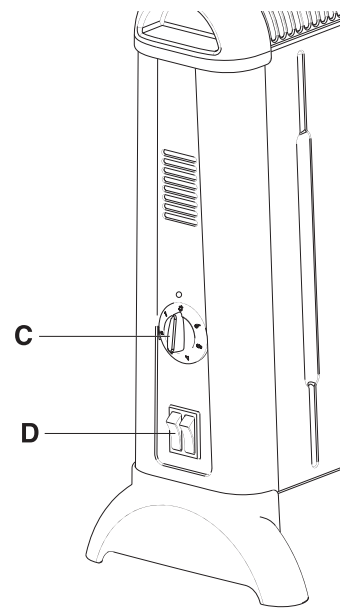

Fig. 2
Turn the thermostat knob clockwise (C) until it reaches its last possible setting, then press one switch (minimum power) or both switches (D) (maximum power) so the red area becomes visible (fig.2).